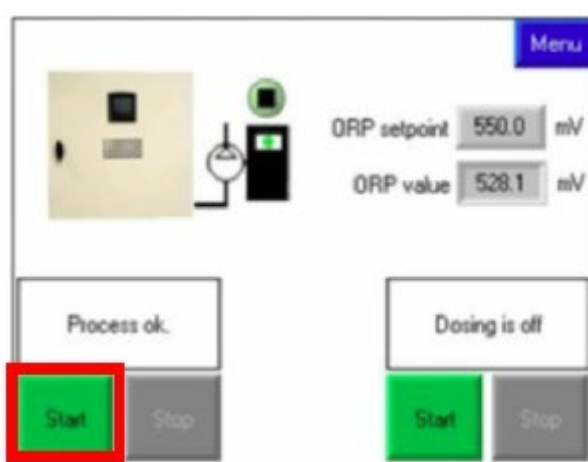

Figure 66 - Start button for water supply
3. Add 5-8 kg salt into the water filled brine tank (Figure 66).